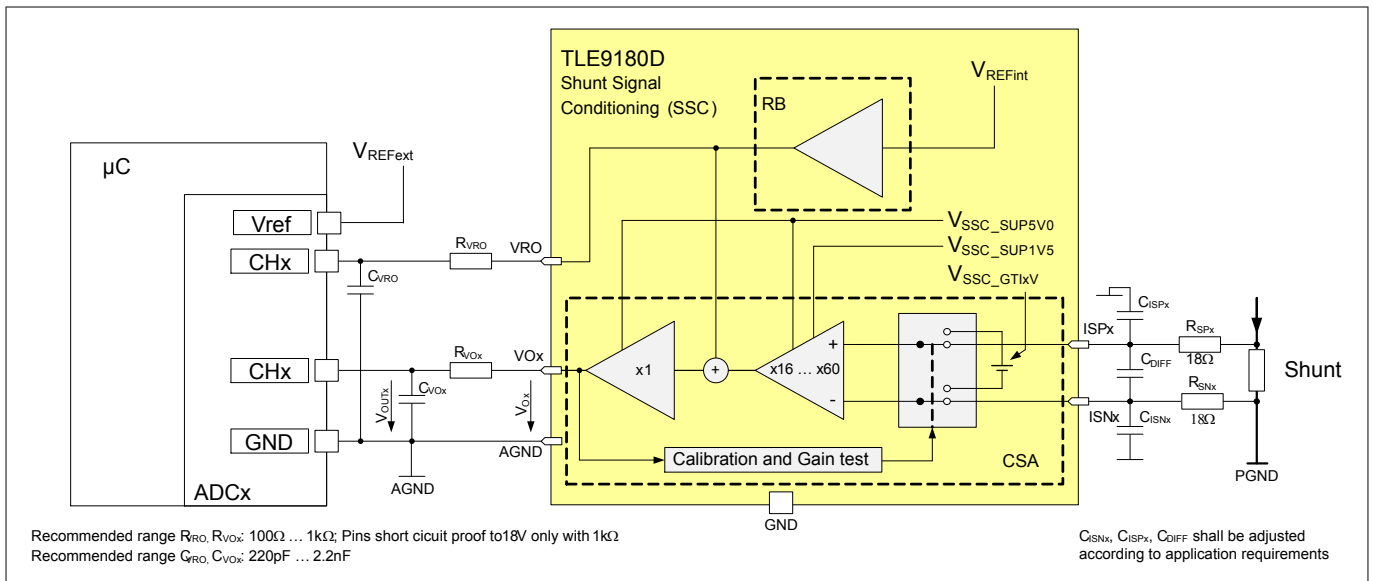

Figure 5 Simplified Block- and Application Diagram of the Shunt Signal Conditioning
The shunt signal conditioning (SSC) incorporates 3 precise current sense amplifiers (CSAs) to amplify the voltage drop at the shunt resistors caused by the motor currents and a voltage reference output buffer (RB), see **Figure 5**.